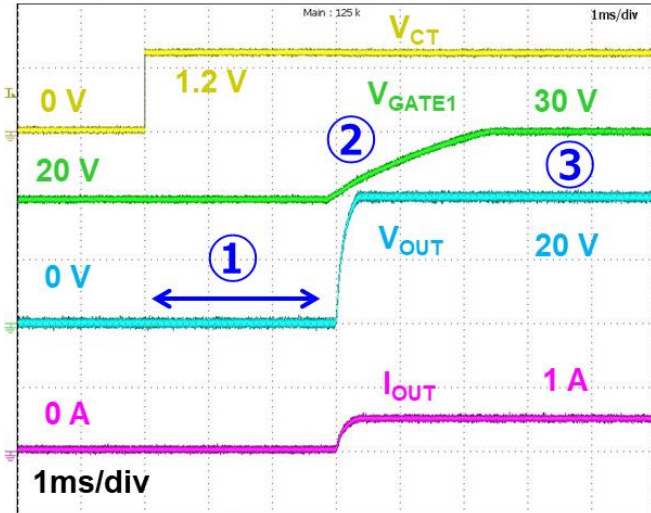
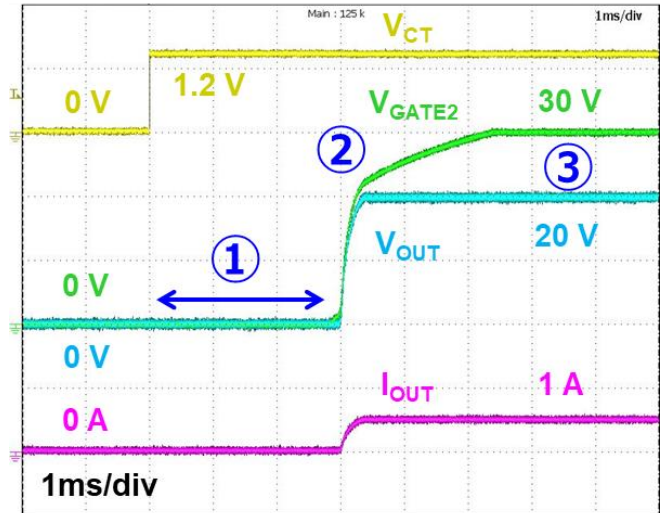

Fig 7.2 Turn-on operation (VGATE1)
Fig 7.3 Turn-on operation (VGATE2)
Fig 7.2 and Fig 7.3 are the turn-on operation of VGATE1 and VGATE2 terminals. If V_{CT} is turned on when a V_{IN} inputs, it is not output immediately, and a delay period t_{HD} (Hold time) occurs (①). After t_{HD} , V_{GATE1} and V_{GATE2} increase until V_{GS} ($= V_{GATE} - V_{IN}$) is 10 V (②). After increasing, intermittent operation is performed so that V_{GS} keeps 10 V (③).